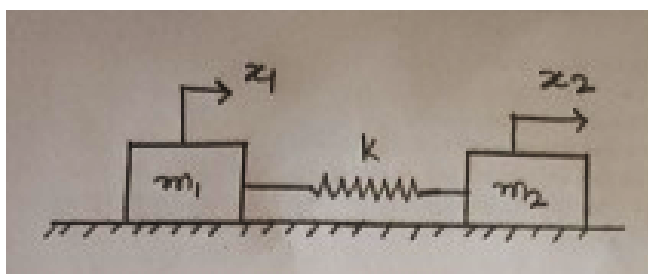

fig.1
- (c) Using Lagrange's equation, determine the natural frequency of the system shown in fig. 1. 07